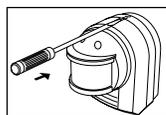
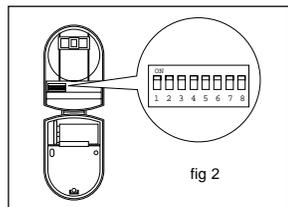

fig 11
fig 2
**THE SYSTEM CODE** in the Detector must match that in the Receiver Unit (see figs 2 and 3). See fig 11 on page 5 for instructions on how to open the Detector unit. Make a note of the Receiver Unit settings and, if necessary, simply move the slider-switches in the PIR Detector unit to match.
- Open the PIR Detector by inserting a small slotted screwdriver into the slot at the base of the unit. Push screwdriver gently to release catch and to allow front cover to be opened fully - the cover is hinged at the top (see fig 11).